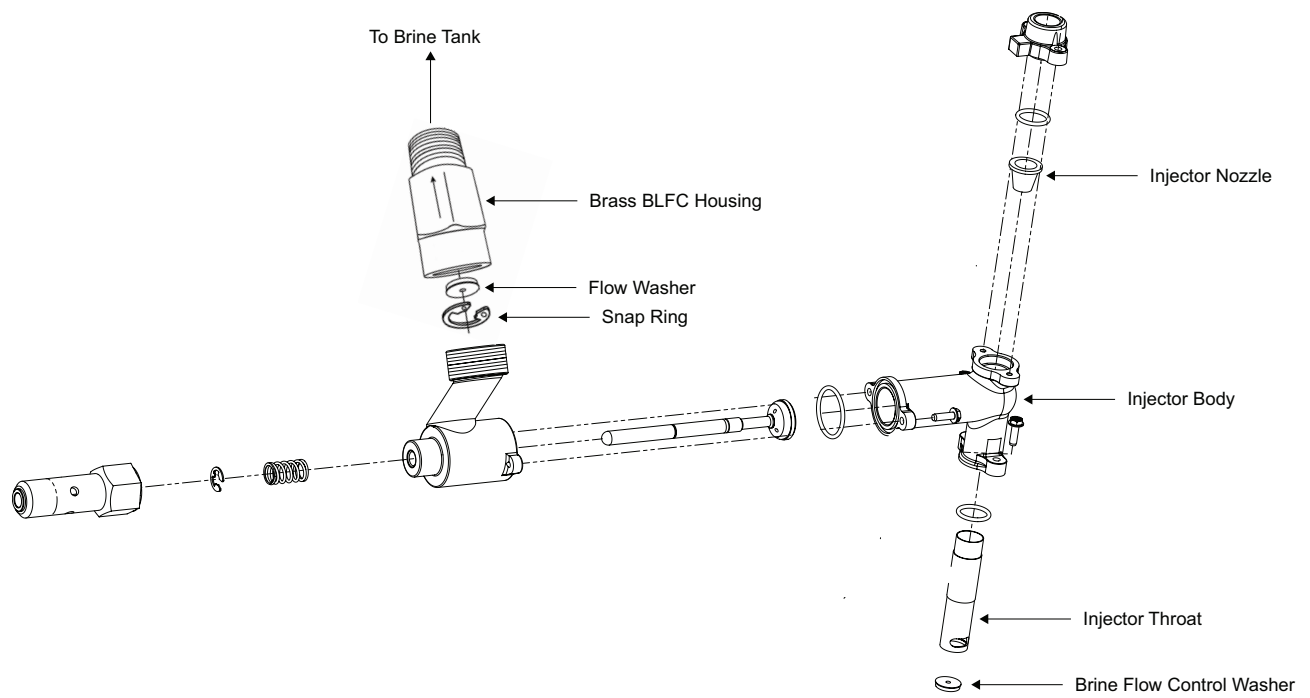

Figure 8.Brine valve.
- To provide adequate regeneration, units larger than the HCE-450-3 must have the eductor nozzle and throat replaced per Table 5. Refer to Figure 8.
- There are two brine line flow controls included with the valve. One has the 5 GPM flow control washer; the other has the 12 GPM flow control washer. If the washer needs to be changed (see Table 5), the 6 GPM washer should replace the 5 GPM washer, and the 8 GPM washer should replace the 12 GPM washer. A pair of snap ring pliers are required to change the washer. Use the piers to remove the snap ring, and the washer will come out. Reassemble in reverse order. The brine line flow control is then corrected to the brine valve (see Figure 8).